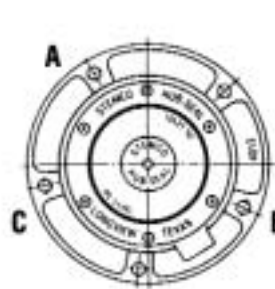

Figure 3
2. **FOR FIVE-HOLE HUBCAPS**, remove bolts A, B and C and install standoffs. Torque to 12 ft/lbs maximum. (See Figure 3)